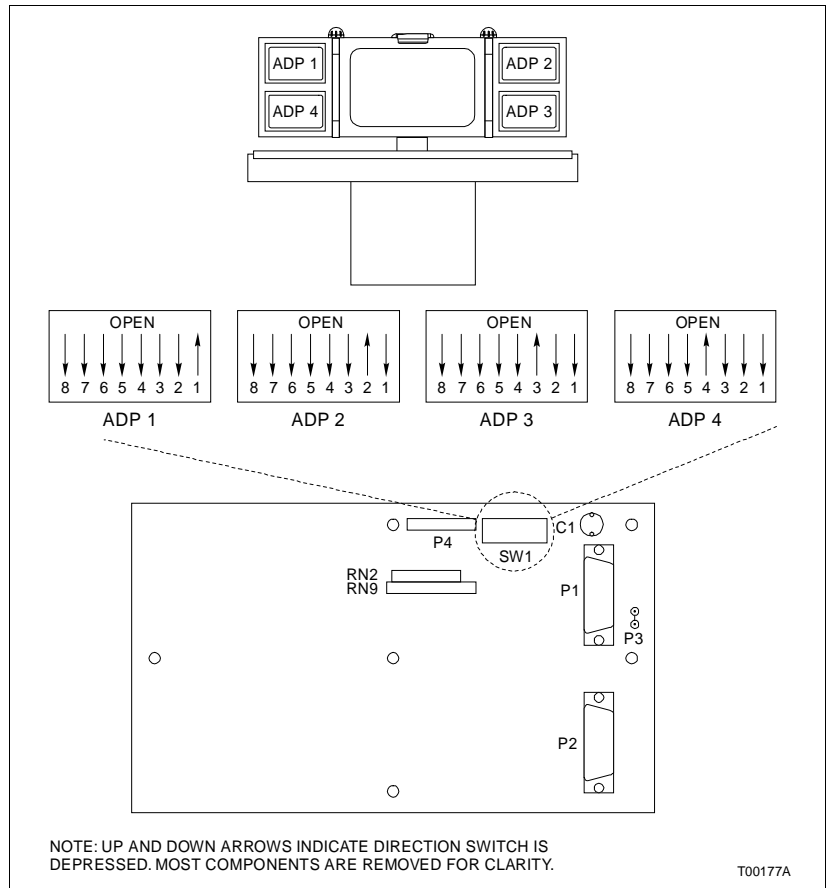

Figure PR69-3. ADP Circuit Board Assembly
- 10. Remove the ADP and set the ADP address (SW1) on the new ADP according to which pod position the ADP will be installed (Fig. PR69-3).